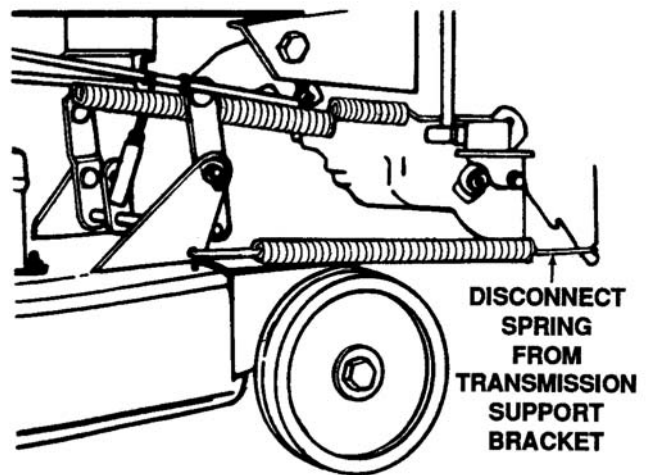

Figure 7-53. Transmission Support Bracket
- c. Disconnect the spring from the transmission support bracket using a spring puller. See Figure 7-53.